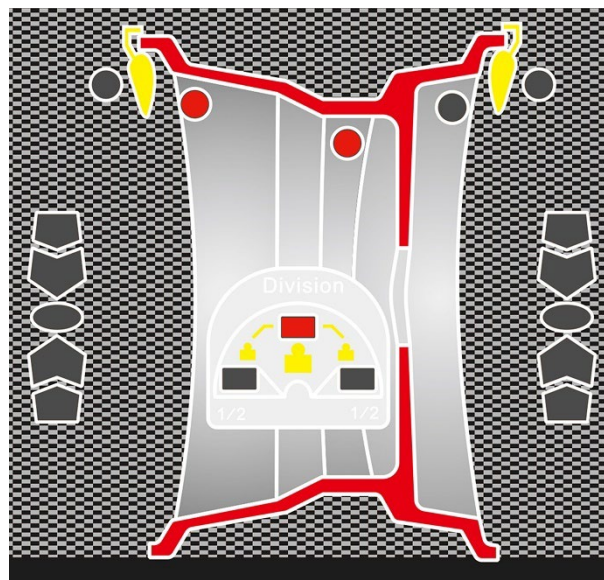

fig.7
- Now the machine automatically switches to ALUS mode and the two LEDs in Fig.7 light up.